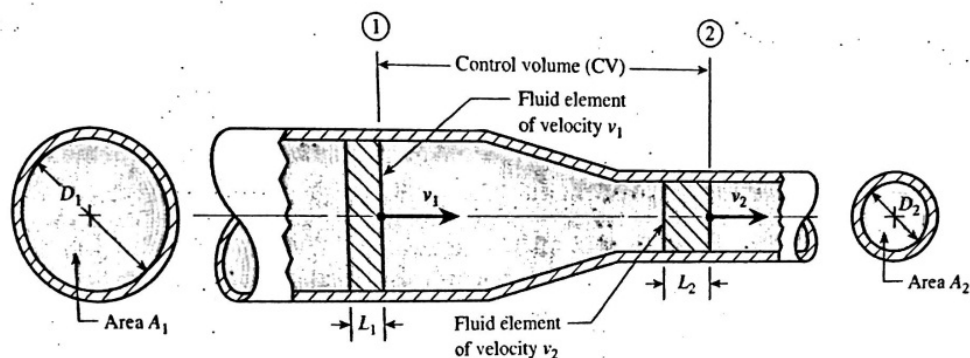

Fig.1
This theorem states that the mass can neither be created nor destroyed. For steady flow, the rate at which mass enters a control volume equals the rate at which mass leaves this volume. In fig.1, fluid is flowing from left to right; the pipe has two different sizes (A_1 and A_2). The volume between 1 and 2 is the control volume (CV), and the rate at which the mass enters equals the rate at which the mass leaves CV.
From fig.1 let M represent the rate at which mass enters or leaves the CV, we have $M_1 = M_2$, thus for a steady flow, the mass flow rate at the inlet to the CV equals the mass flow rate at the exit from the CV.